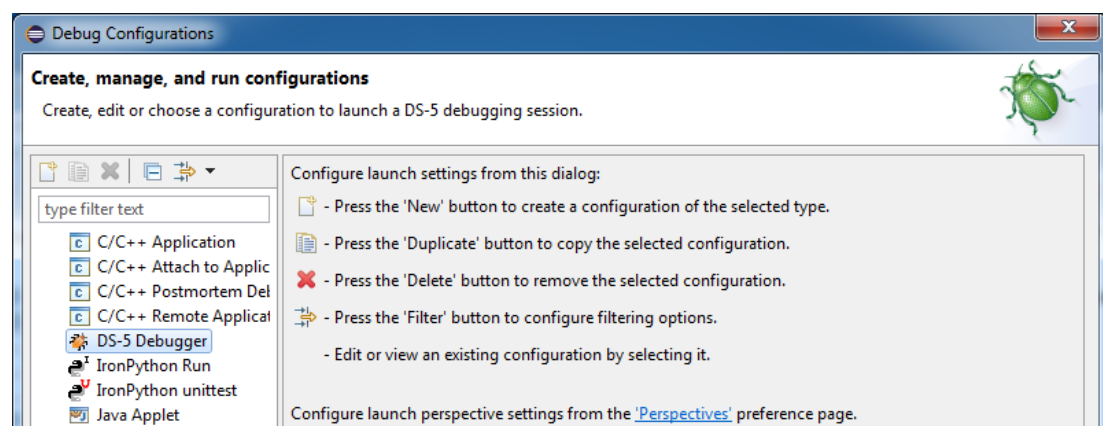

Figure 9 - Debug Configurations
1. Go to Run → Debug Configurations and select DS-5 Debugger as shown in Figure 9.